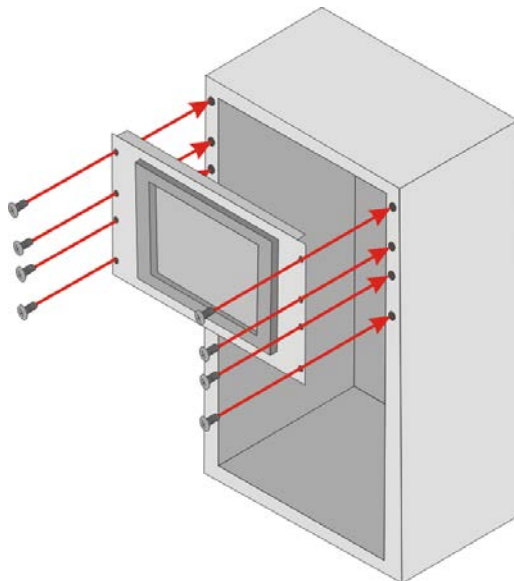

Figure 4-13: Install into a Rack/Cabinet
Step 6: Slide the flat bezel panel PC with the attached rack/cabinet bracket into a rack or cabinet (**Figure 4-13**).
Step 7: Once the flat bezel panel PC with the attached rack/cabinet bracket has been properly inserted into the rack or cabinet, secure the front of the rack/cabinet bracket to the front of the rack or cabinet (**Figure 4-13**).